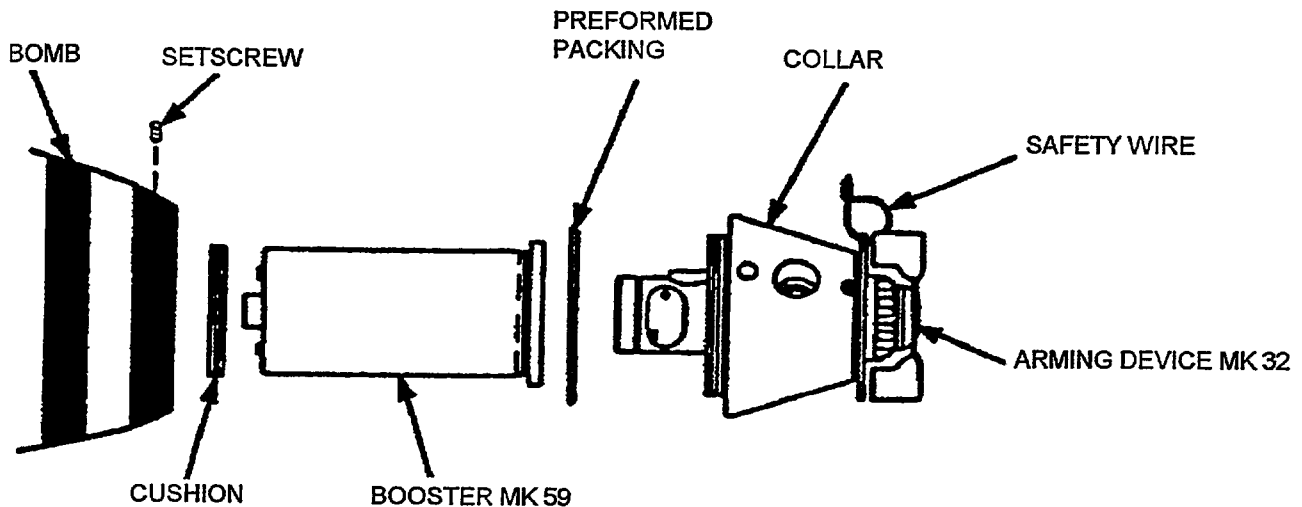

Figure 5-1E. Arming Device and Booster Removal
- a. Remove the setscrew securing arming device to nose of bomb (Figure 5-1E). If seal assembly setscrew was used, discard the setscrew. If dog-pt setscrew was used, remove and discard Teflon
- b. Put on faceshield. Loosen steel collar and remove arming device from nose fuze well, allowing booster to remain in nose fuze well (Figure 5-1E).